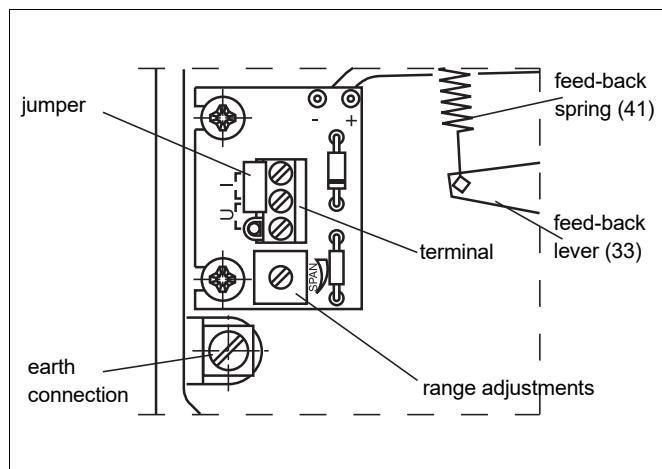

Fig. 6 Terminal card
Connect C1 and C2 (1/4 NPT) to the actuator according to Fig. 6. See also Chapter 3.
Place a plug in connection C1 or C2. See Figure 6.
Figure 6 assists in choosing the right segment for the cam plate (29) and position for the changeover piece (46).
External changes in the tubes are not needed. Positioner NE727 is an exception (DIA6HC pilot valve). Then the changeover piece must always be in position R and the external tubes mounted in accordance with Fig. 6.
Choose the position of the changeover piece, D or R, from Fig. 6 in accordance with the function desired.
Choose the side, A or B, and the rising segment of the cam plate from Fig. 6 in accordance with the function desired.